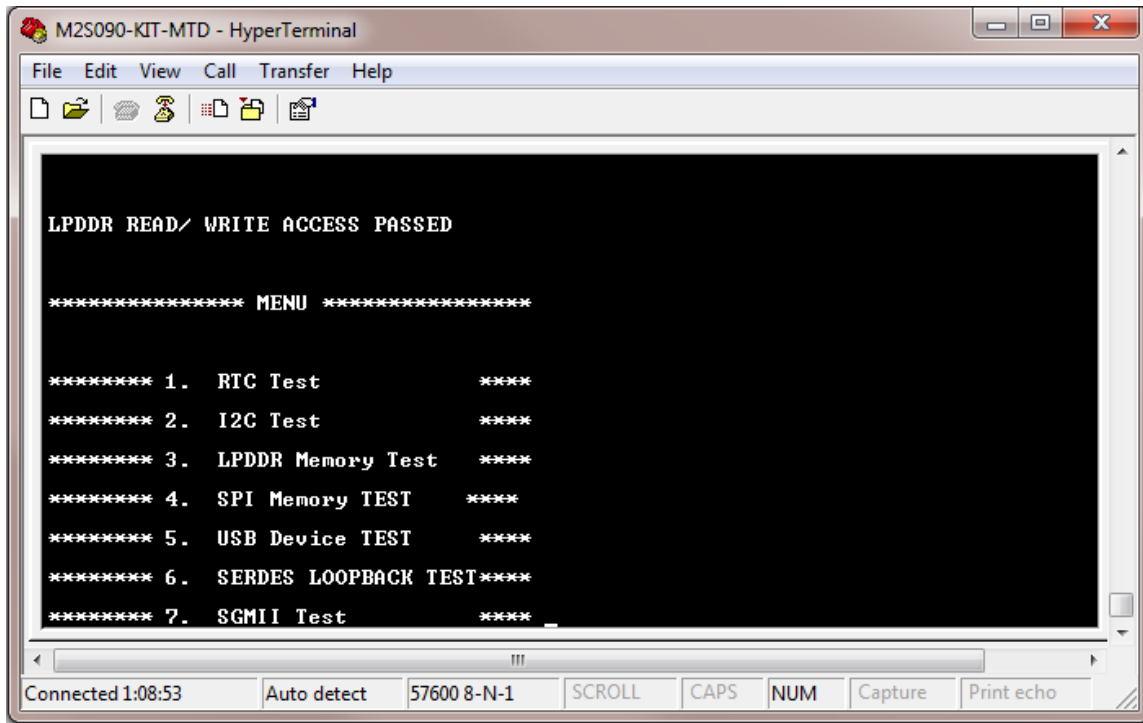

Figure 42 LPDDR Memory Test Passed
- When the test is passed, a message is displayed. Refer to Figure 42.